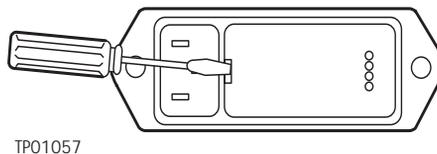

Figure 2-3 Fuse Installation
1. Remove the fuse holder module by inserting a screwdriver as shown in Figure 2-3.